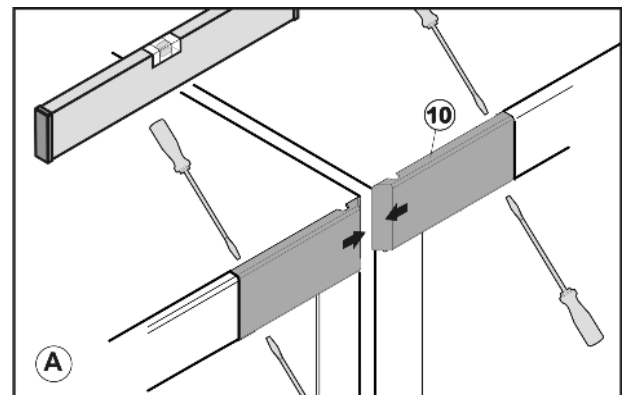

Fig. 41
- Loosen covers Fig. 41 (10) using a screwdriver and pull inwards to remove.